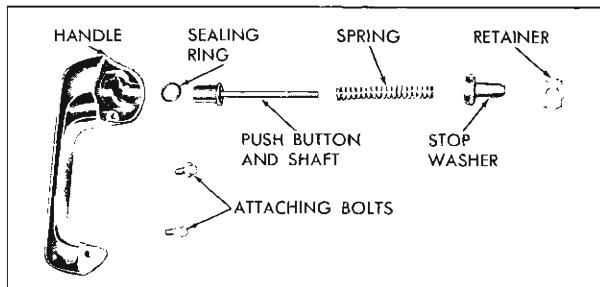

Fig. 12-12 Outside Handle
3. With a flat-bladed screwdriver and hammer, rotate sheet metal retainer $\frac{1}{4}$ turn. Remove retainer, stop washer, spring, sealing ring and push button and shaft (Fig. 12-12).